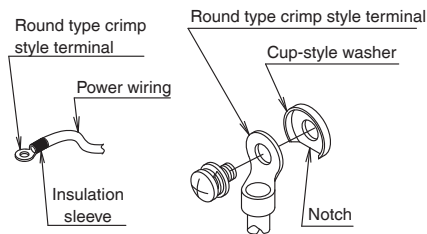

Fig. 25
- Be sure to use round type crimp style terminals (field supply) for connection. Also, insulate the crimping part by installing an insulation sleeve (field supply). (refer to Fig. 25)